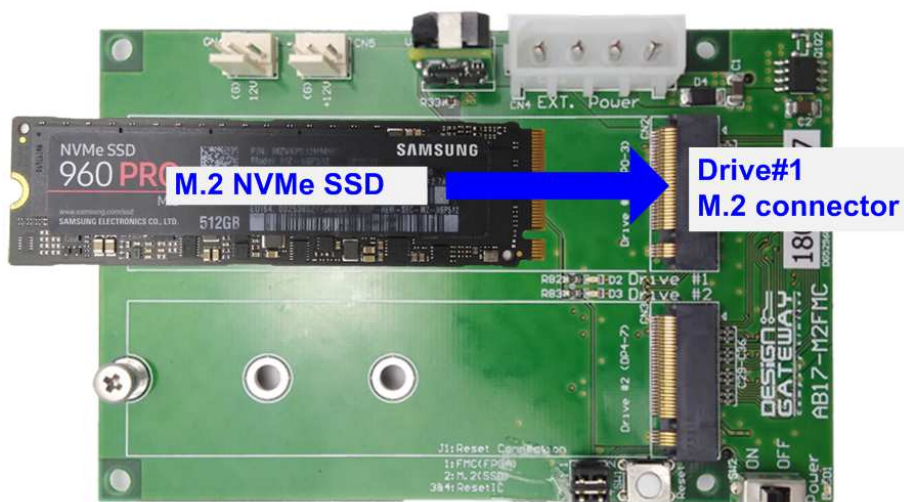

Figure 2-1 Connect M.2 NVMe to AB17
- 2) Connect M.2 NVMe SSD to Drive#1 M.2 connector on AB17-M2FMC, as shown in Figure 2-1.